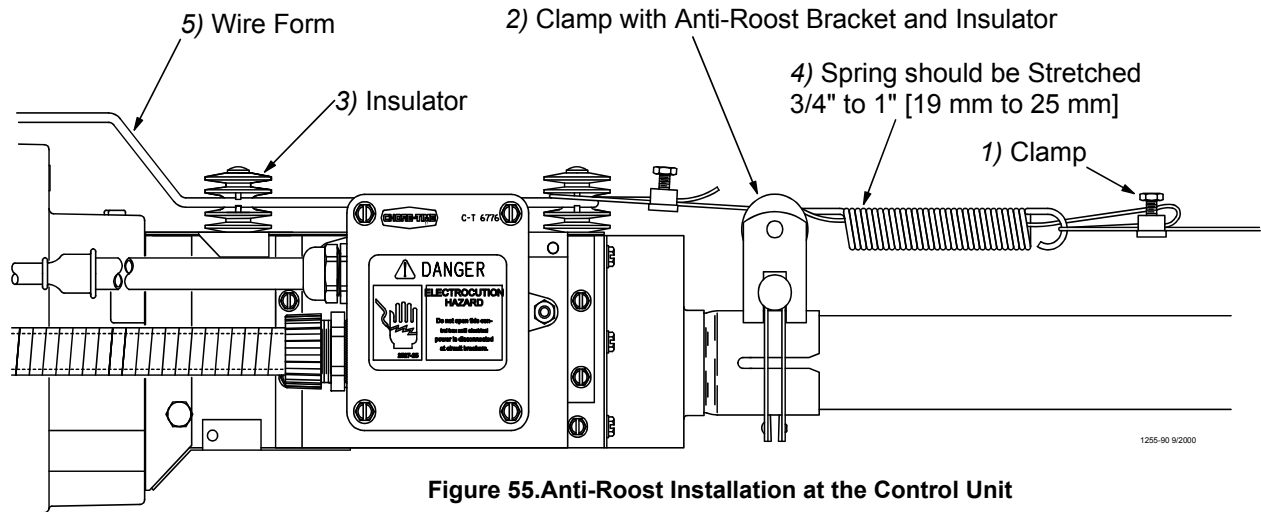

Figure 55. Anti-Roost Installation at the Control Unit
14. At the control unit, after clamping the cable to the spring, cut the cable about 8" to 10" [200 to 250 mm] longer than necessary. Feed the end of the cable through the center of the spring, around the first insulator on the control unit, and clamp the cable using the cable clamp supplied with the control unit. See **Figure 55.** Install the wire form on the control unit insulators. Be sure the guard snaps into the retainers molded into the
insulators. See **Figure 55**.